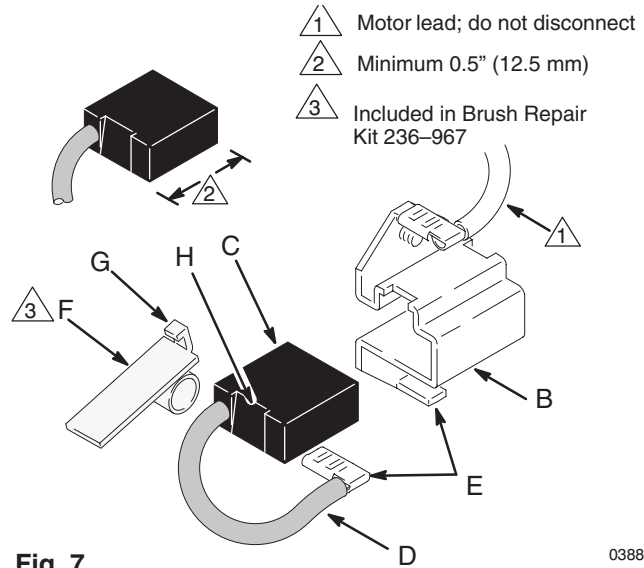

Fig. 7
2. Push in the spring clip (F) and release its hook (G) from the brush holder (B). Pull out the spring clip. See Fig 7.
3. Slide off the brush lead terminal (E) off the blade connector. Remove the old brush (C). See Fig 7.